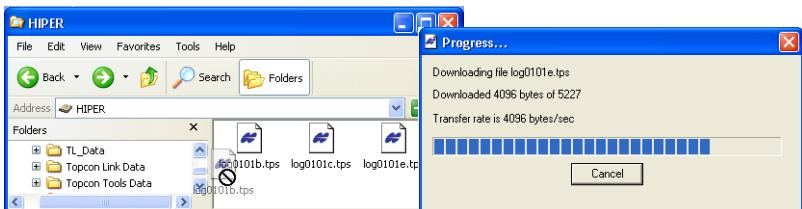

Figure 2-5. Start of File Import from the TPS Receiver/Import in Progress
- To import the file(s) from the receiver to a folder, select the desired file(s) and copy to the folder using drag-and-drop method (Figure 2-5).